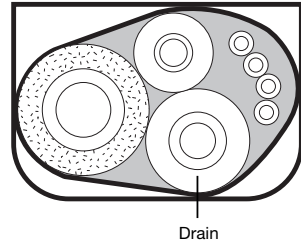

Figure 5
4. After completing refrigerant lines, wiring and drain connection, bind the tubing, wiring and drain pipe (check if local codes permit it) into a bundle by using tape at 100 or 200 mm (4 in. or 8 in.) intervals. Make sure the drain tube is at the bottom of the bundle (Figure 5).